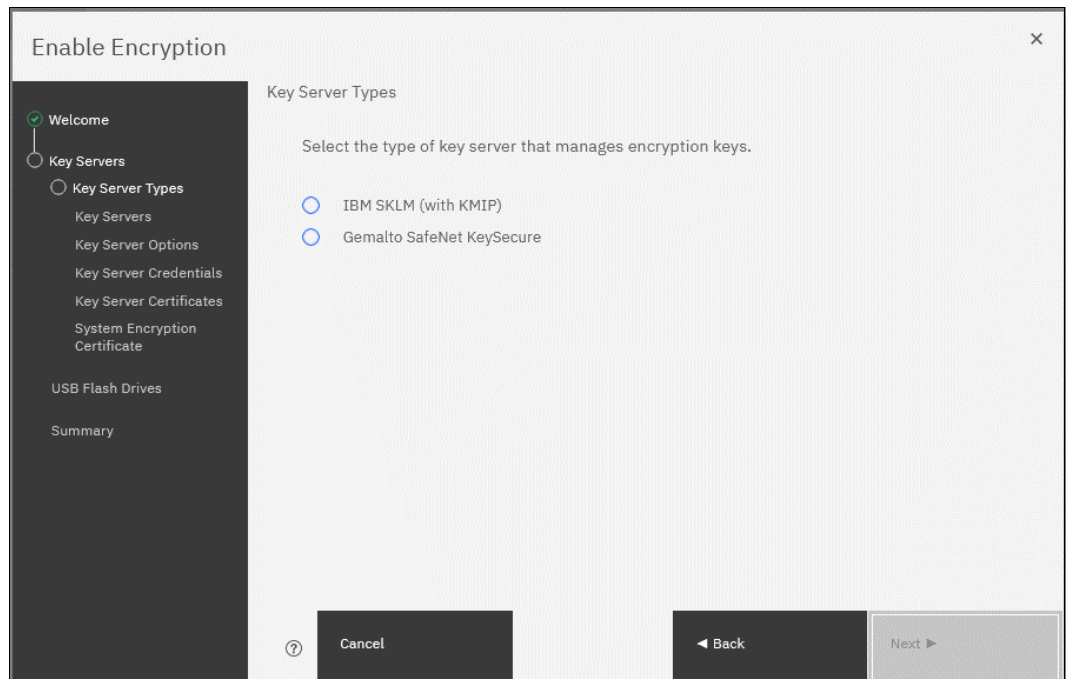

Figure 12-47 Selecting the key server type
3. The wizard opens the Key Server Types window, as shown in Figure 12-47. Select the key server type that manages the encryption keys.